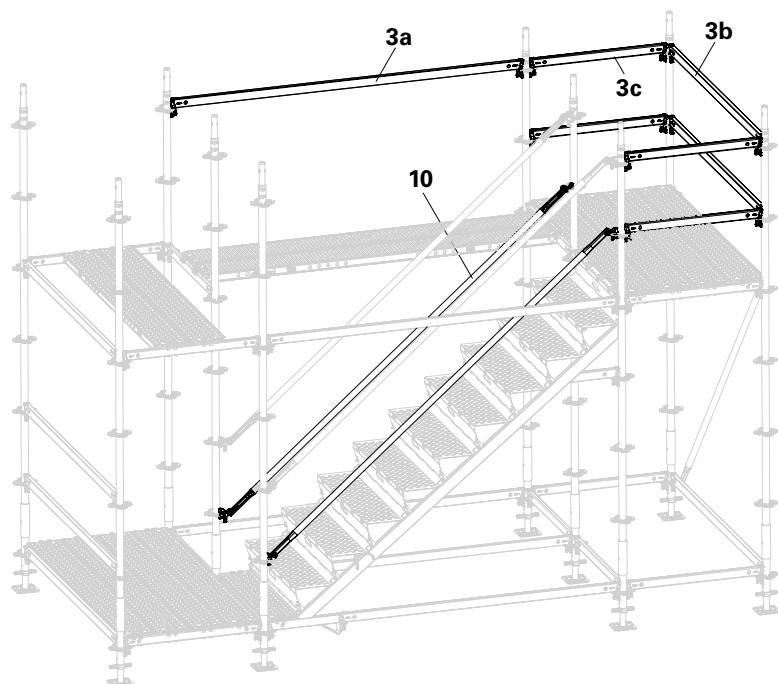

Fig. A2.11
1. Fit Node Braces UBK (10) into the rosettes.
3. Fit the Horizontal Ledger UH 250 (3a) as an assembly aid. (Fig. A2.11)